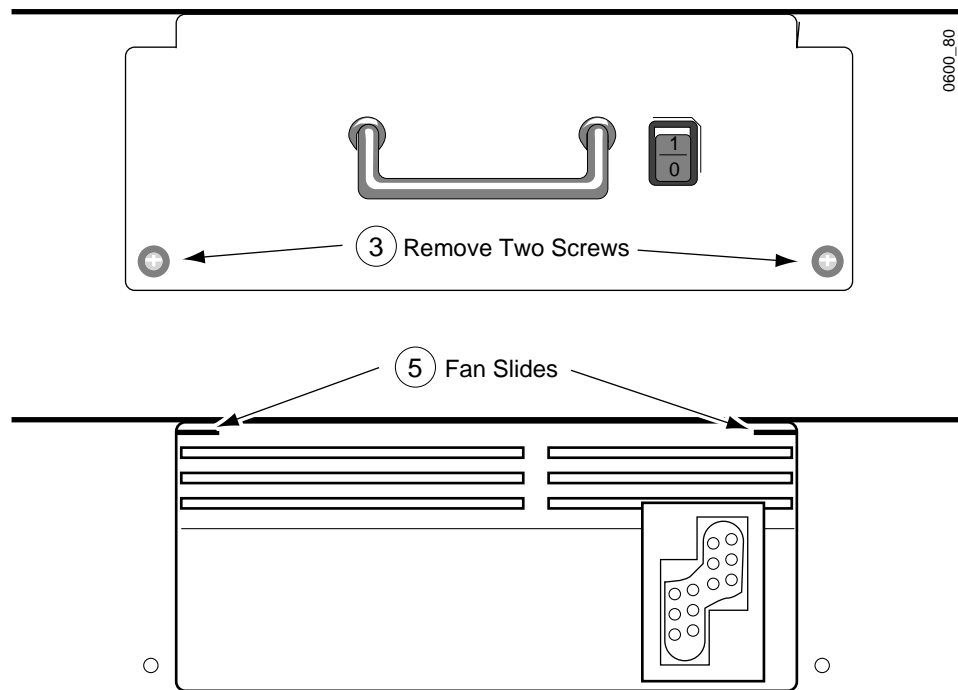

Figure 5-4. Removing Video Processor Frame Fan
3. Remove the two fan door screws shown in step 3 of Figure 5-4
5. Engage the fan assembly with the slides shown in step 5 of Figure 5-4.